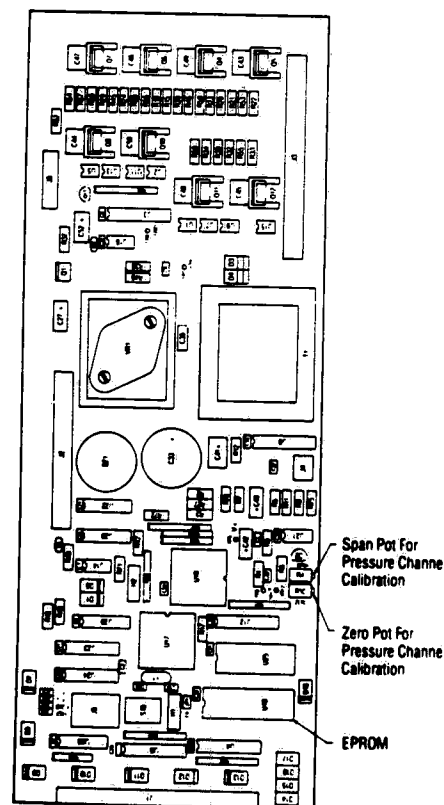

FIGURE 7-5 - Control PC Board
3. Lower Control to the horizontal service position to gain access to temperature pots R4 (SPAN) and R10 (ZERO) (Figure 7-5).